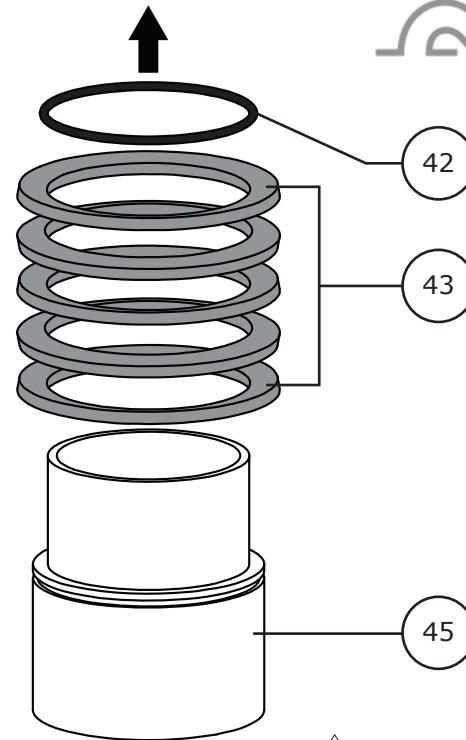

Figure 13 Spring Pack Assembly Separation Example
- 3 Separate the spring pack components by removing the packing flange O-ring (Key 42) then separating the spring washers (Key 43) from the packing follower (Key 44). Refer to Figure 13. **NOTE:** Record the number of spring washers, their order and the orientation they were stacked in for re-assembly purposes.